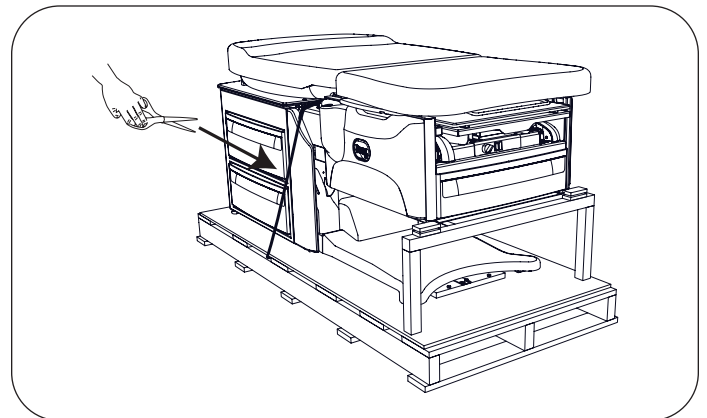

Figure 7. Cut Shipping Strap
7. Cut the shipping strap, and discard strap and foam tube (Figure 7).